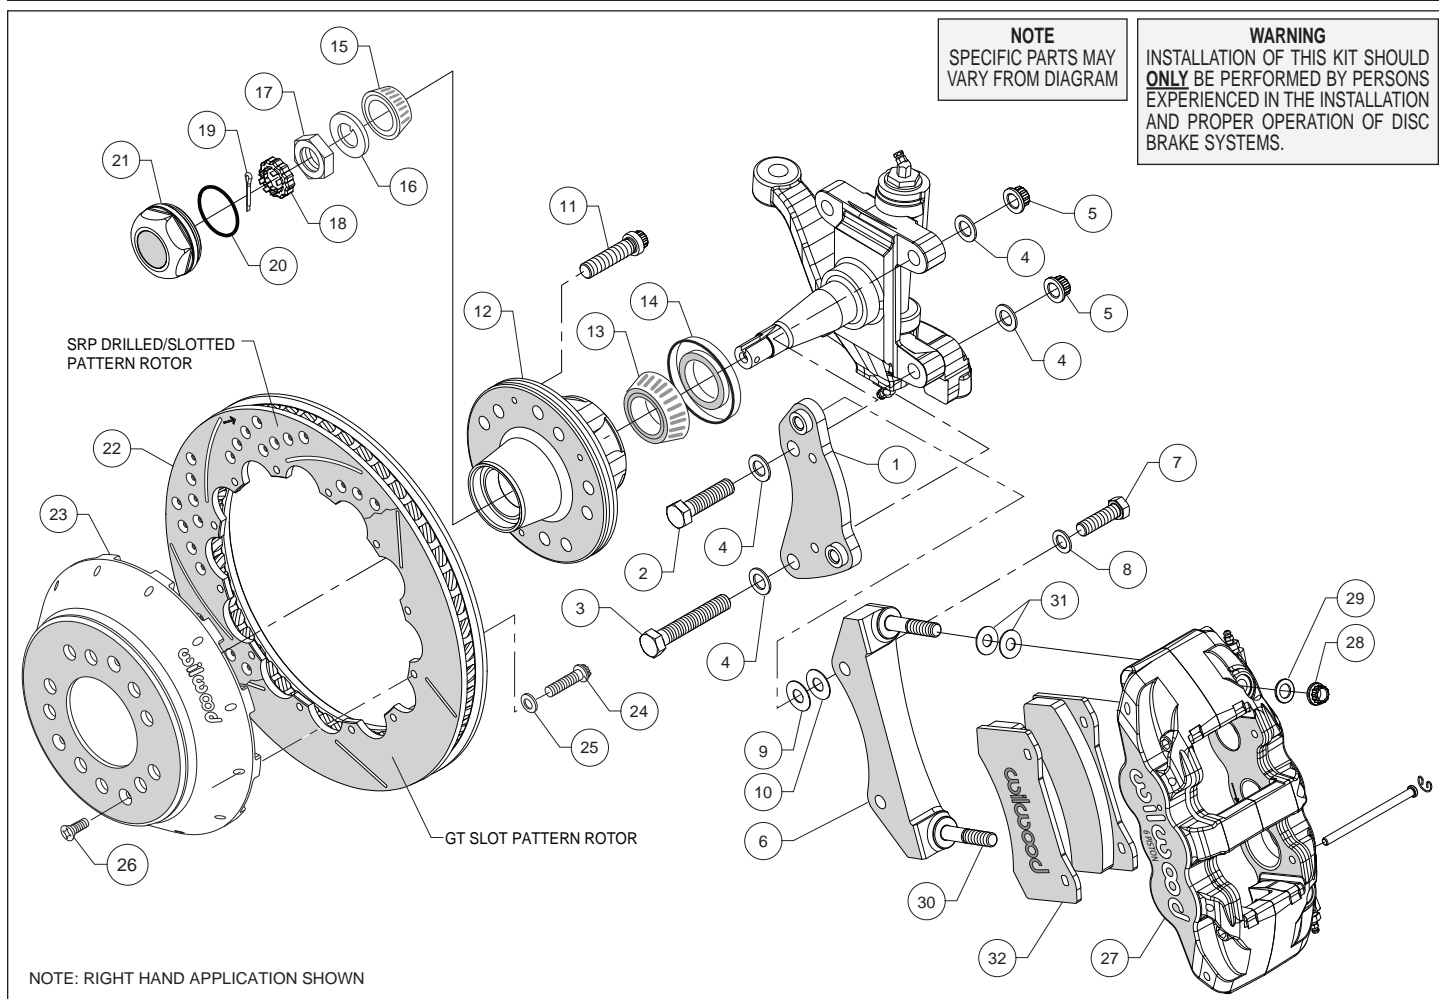
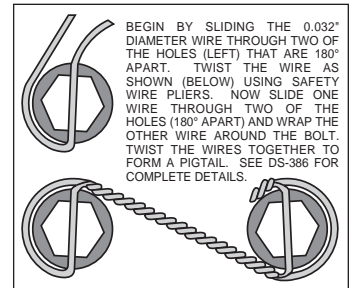
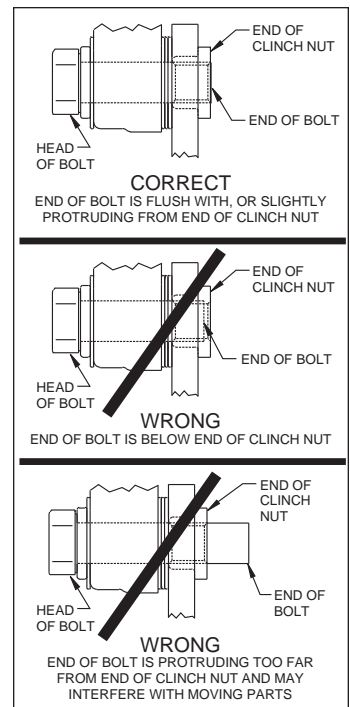

Figure 1. Typical Installation Configuration
Figure 3. Safety Wire Diagram
Figure 4. Clinch Nut Engagement Diagram
**Assembly Instructions** (numbers in parenthesis refer to the parts list, on the preceding page and Figure 1). **CAUTION:** All mounting bolts must fully engage clinch nuts. Be sure to check that all bolts are either flush or protruding through flanged side of clinch nut after shimming, Figure 4.
- Orient the spindle bracket (1) as shown in Figure 1 and Photo 1, and install using bolts (2 and 3), washers (4) and nuts (5). Temporarily tighten the mounting bolts. Ensure that the flanged heads of the clinch nuts in the bracket are facing outboard, Photo 1. **NOTE:** The bracket must fit squarely against the mount bosses on the upright. Inspect for interference from casting irregularities, machining ridges, burrs, etc. Torque lock nuts to 65 ft-lb.
- The caliper mount radial bracket (6) should initially be installed with clean, dry threads on the mounting bolts. Orient the bracket as shown in Figure 1 and Photo 2. Install onto the spindle bracket using bolts (7), and washers (8). Initially place one .030 thick shims (9) on each bolt between the radial and spindle brackets, Figure 1. Temporarily tighten the mounting bolts. Later, after the caliper alignment has been checked, the mount bolts will be secured using red *Loctite*® 271.
- Screw dust cap (21) into hub (12), Photo 8. Friction created by the o-ring (20) on the dust cap keeps it from unscrewing. **NOTE:** *The O.D. of the existing OEM spindle washer may be larger than the I.D. of the dust cap not allowing it to seat against the hub face. Therefore, use the spindle washer (16) supplied with the kit instead of the OEM washer.*
- Orient the rotor (22) and the hat (23) as shown in Figure 1 and Photo 9. Attach rotor to hat using bolts (24) and washers (25). Using an alternating sequence, apply red *Loctite*® 271 to the threads, and torque to 155 in-lbs. For an added measure of security, the bolts may be safety wired using standard 0.032 inch diameter stainless steel safety wire as shown in Figure 3. Refer to Wilwood's data sheet DS-386 (available at [www.wilwood.com/Pdf/DataSheets/ds386.pdf](http://www.wilwood.com/Pdf/DataSheets/ds386.pdf)) for complete safety wire installation instructions.
- NOTE:** *This kit contains distinct right and left hand calipers that must be mounted in a specific direction, as described below.* Lubricate the caliper mounting studs (30) with lightweight oil. Initially place two .030" thick shims (31) on each stud between the caliper and the bracket, as shown in Figure 1 and Photo 11. Mount the caliper (27) onto the bracket (6) using lock nuts (28) and washers (29), Figure 1. Ensure that the caliper is mounted so the largest pistons are at the rotor exit end of the caliper, in relation to the direction of rotor rotation. Temporarily tighten the lock nuts and view the rotor through the top opening of the caliper. The rotor should be centered in the caliper, Photo 12. If not, adjust by adding or subtracting shims (9 and/or 10) between the spindle bracket (1) and the caliper mount bracket (6). Always
- Remove the two pad retaining pins from the caliper (27) by carefully popping out the pin retaining clips and sliding out the pins. Insert the brake pads (32) into the caliper from the bottom, Figure 1 and Photo 13. With the friction material facing the rotor, secure the brake pads in place with the pad retaining pins and clips, Photo 14. Reinstall the caliper onto the caliper mounting bracket and temporarily tighten the lock nuts (28). Check that the top of the brake pad is flush with the outside diameter of the rotor, Photo 15. If not, adjust by adding or subtracting shims (31) between the caliper and the bracket. After the caliper pad height is set, torque the caliper lock nuts (28) to 47 ft-lb.